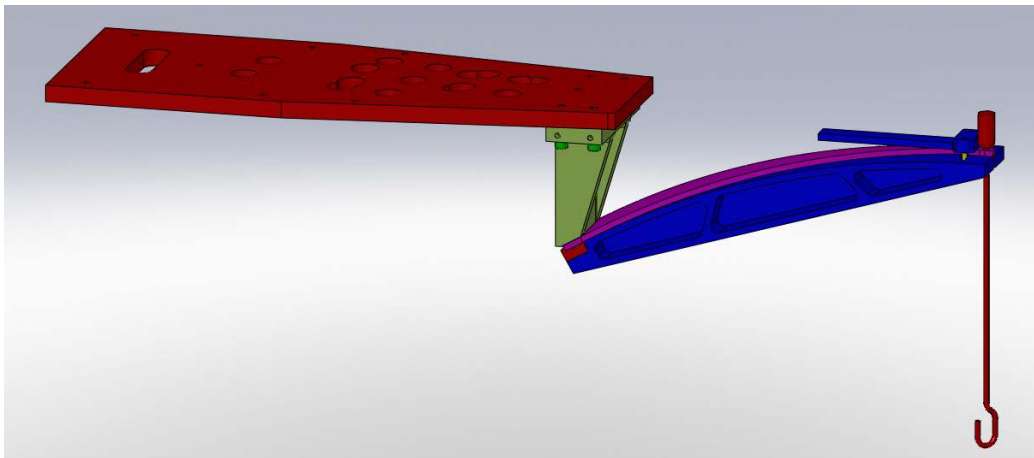

Figure 8: Spring Blade Loading
- i. (2) C-2016-NA (1/4-20 x 1 SHCS Ag) upper placement
- ii. (2) C-2012-NA (1/4-20 x ¾ SHCS Ag) lower placement
5. Turnover INTERFACE MOUNTING PLATE and place on table with bracket clearing edge of table, see Figure 8.